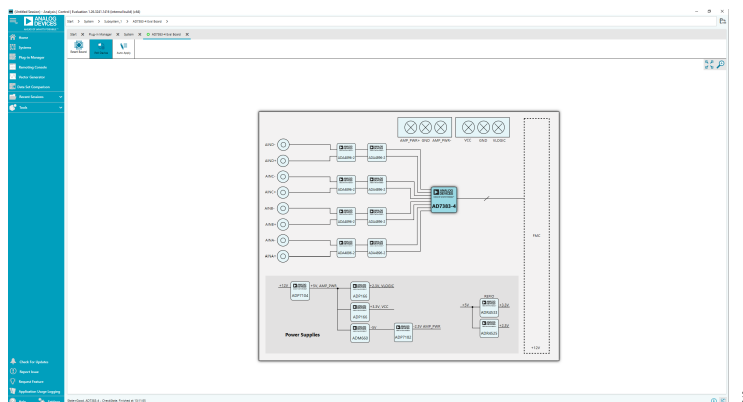

Figure 13. Board View
3. Double click the **AD7380-4 Eval Board** icon to view the window shown in Figure 13.